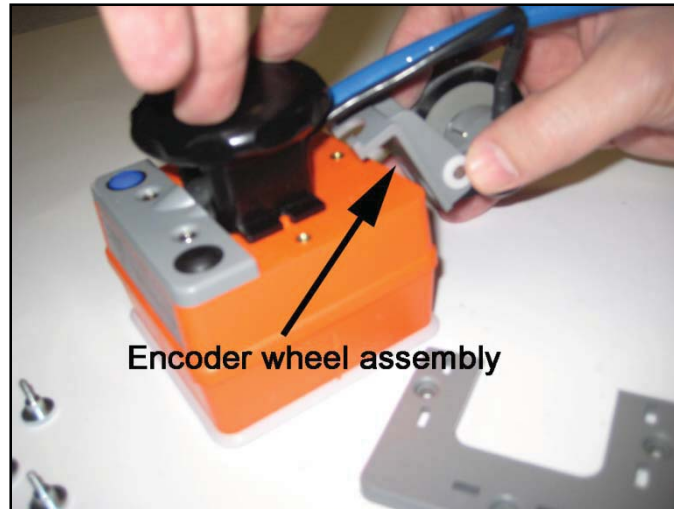

Figure 4: Reposition wheel assembly.
- 3** Swing the encoder wheel assembly to one side of the antenna (Figure 4). The side you choose has no effect on the data.